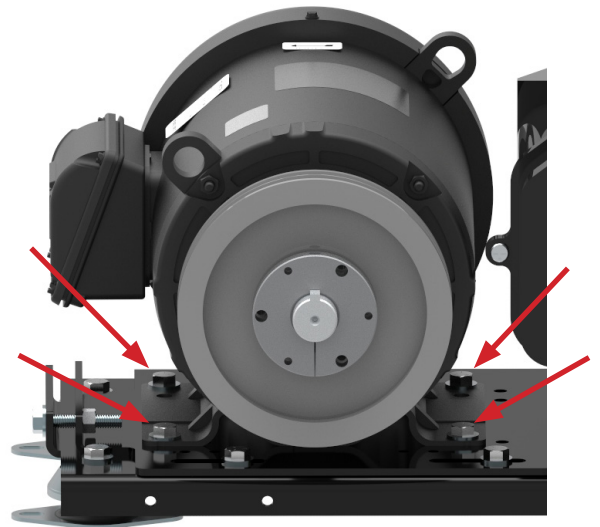

Figure 65
4. Remove the 4 bolts and washers holding the motor to the slide base shown in Figure 65. Retain the bolts for re-use.
6. Install the 4 motor bolts and washers retained in step 3 in the locations shown in Figure 65.